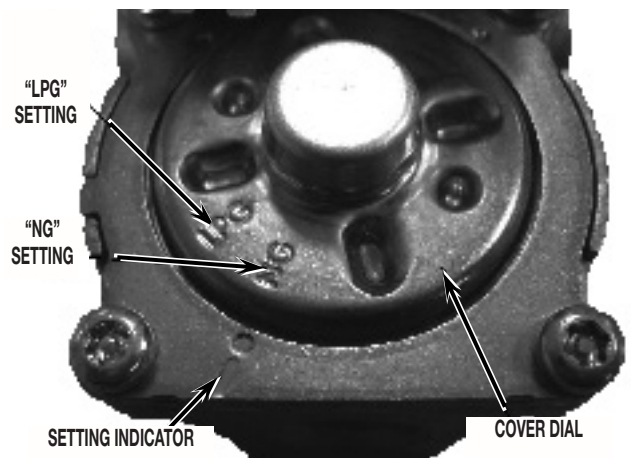

FIGURE 6
7. Observe the cover dial settings indicated as NG (Natural Gas) and LPG (Liquefied Propane gas) along with the gas type setting indicator. See *Figure 6*.